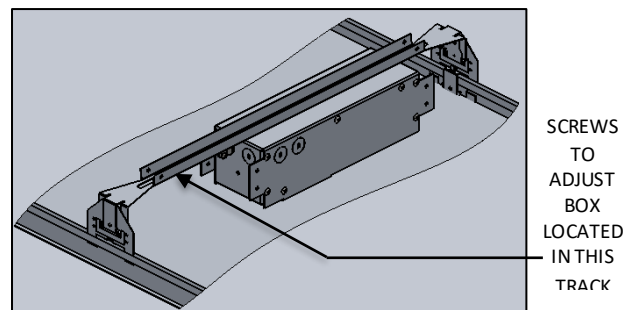

FIG. 20- J-BOX ASSEMBLY ORIENTATION
15. From an adjacent opening attach, the J-BOX to the GRID with the SUSPENSION BARS [BY OTHER] attached on the top. (Position of the J-BOX can be moved by loosening the top 2 SCREWS) as shown below in FIG. 20.